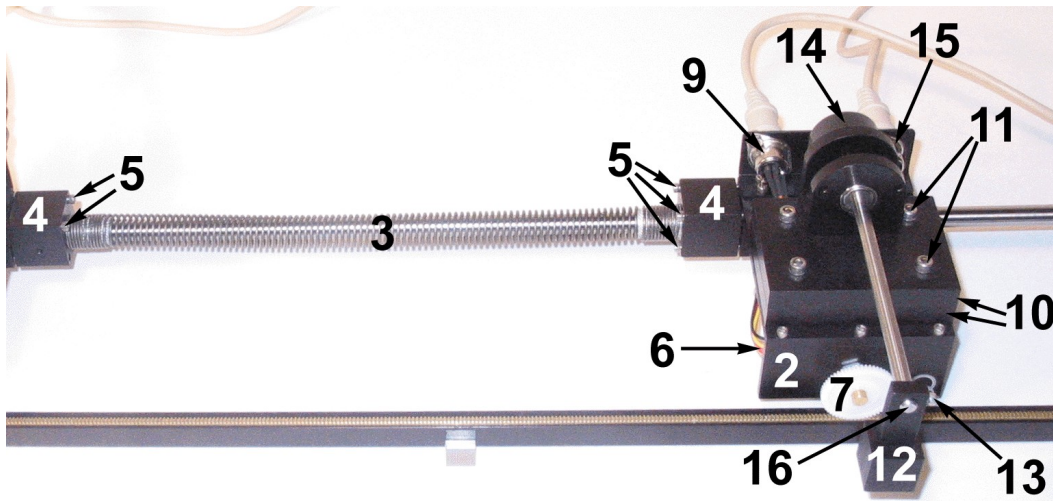
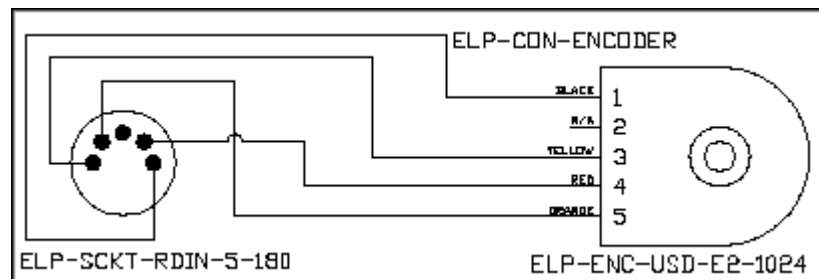
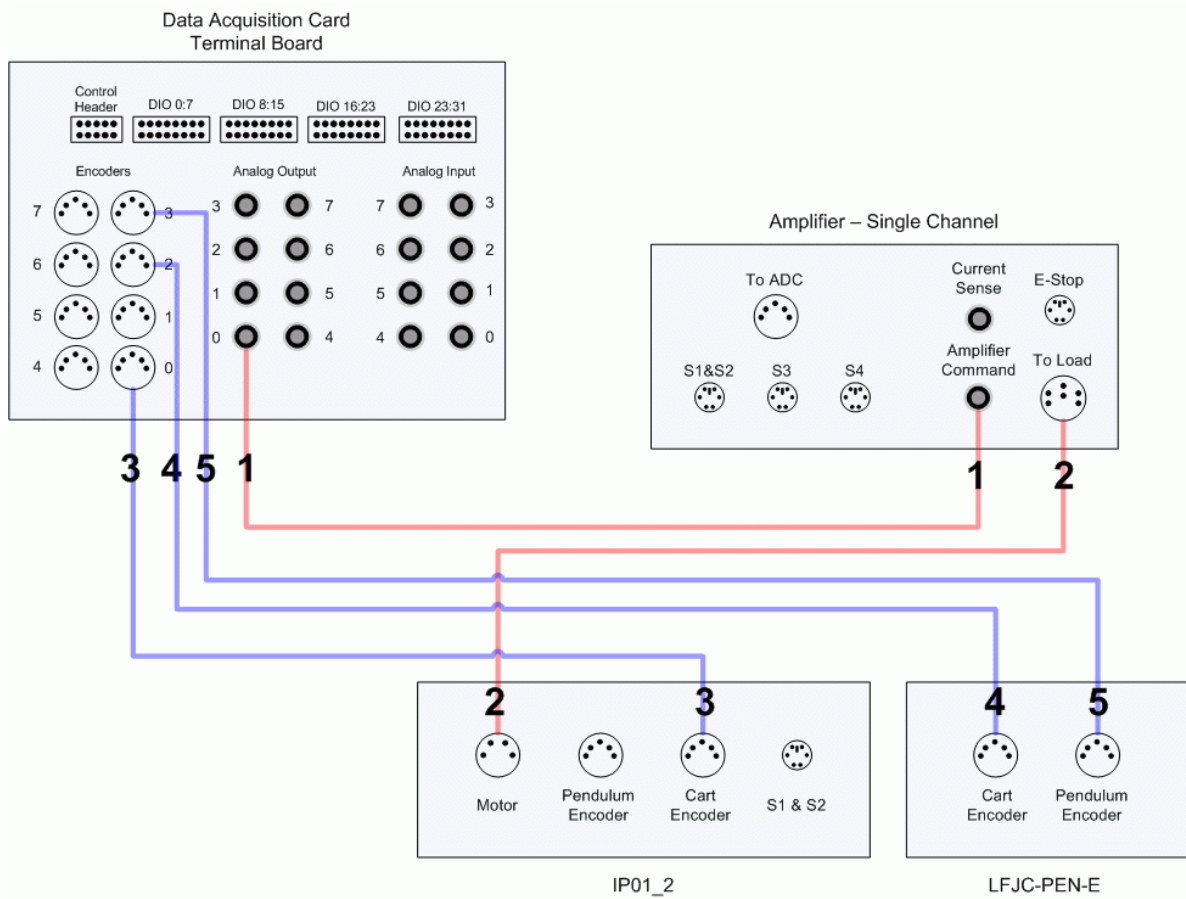

Figure 2 LFJC-PEN-E Nomenclature
Figure 5 Wiring Diagram of the LFJC-PEN-E Encoders
Figure 7: Connecting the LFJC-Plus-SIP system to an amplifier and DAQ board.
Figures 2 and 3, below, depict the LFJC-PEN-E and SIP modules, respectively.
As a component nomenclature, Table 1, below, provides a list of all the principal elements composing the LFJC-PEN-E and SIP sub-systems. Each of these elements is located and identified, through a unique identification (ID) number, on both LFJC-PEN-E and SIP systems, as represented in Figures 2 and 3.
The LFJC-PEN-E has one optical encoder to measure the cart position, as represented in Figure 2, by component #6. The encoder measuring the LFJ cart linear position does so through a rack-pinion system. The LFJC-PEN-E also offers a rotary joint atop of it, where a free-swinging rod can be attached to and suspend in front of the cart. It results that the LFJC-PEN-E module is instrumented with a second quadrature optical encoder, as represented in Figure 2 by component #14. This encoder measures the angle of the rod optionally mounted on the cart. Both encoders of the LFJC-PEN-E are typically identical. They are **US Digital S1 single-ended optical shaft encoders**. They offer a high resolution of 4096 counts per revolution (i.e., 1024 lines per revolution with two channels in quadrature). The complete specification sheet of the S1 optical shaft encoder is included in Appendix A.
The internal wiring diagram of the LFJC-PEN-E encoders is depicted in Figure 5. The standard 5-pin DIN connector shown in Figure 5 is also pictured as components #9 and #15 in Figure 2.
- Step 3. Attach the linear spring square fitting (component #4 in Figure 2) to your IP01 or IP02 cart. To do so, fasten the set screws numbered 5 in Figure 2.
- Step 5. Mount the two additional weights (components #10 in Figure 2) on top of your LFJC-PEN-E system, if not already done. To that effect, fasten the set screws numbered 11 in Figure 2.
- Step 6. Insert the long pendulum rod (i.e., 24-inch) inside its corresponding T-fitting (i.e. component #12 in Figure 2). Ensure that it sits properly. Tighten set screw #13, as required.
This section describes the standard wiring procedure and typical cabling connections that are used by default in the Quanser LFJC-Plus-SIP laboratory described in References [4] and [5]. These cabling connections use standard cables, whose description and nomenclature can be found in Reference [1]. Figure 7, below, shows the LFJC-Plus-SIP system, the DAQ board, and the amplifier (e.g., VoltPAQ), all connected with the necessary cabling to interface to and use the LFJC-Plus-SIP system.
The "Encoder" cable is the 5-pin-stereo-DIN-to-5-pin-stereo-DIN cable described in Reference [1]. First connect one end of the cable to the **LFJC-PEN-E Encoder Connector**, which is shown as component #9 in Figure 2. Then connect the other cable end to the **Encoder Input 2** on your DAQ device terminal board. This is illustrated by cable #4 in Figure 7.
First connect one end of the cable to the **LFJC-PEN-E Pendulum Encoder Connector**, which is shown as component #15 in Figure 2. Then connect the other cable end to the **Encoder Input 3** on your DAQ device terminal board. This is illustrated by cable #5 in Figure 7.
Figure 7 and Table 3 sum up the electrical connections recommended to run the LFJC-Plus-SIP system.